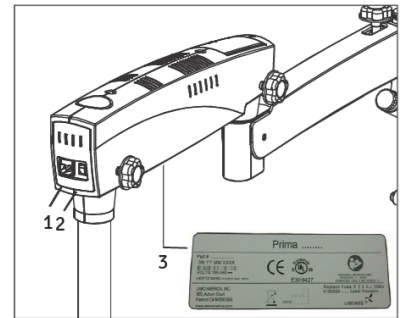

Fig. 42
1. Connect the power cable to the AC inlet socket (1) provided on the back of the swivel arm as shown in the fig.42. Switch on the power from on/off switch (2).
Note: Power supply is designed with universal input 100V - 240V AC, 50/60HZ. To plug in follow instruction on electrical label provided at bottom of the arm as shown (3) here in Fig.42.
It is located on the back of the swivel arm Refer fig 42. At 'I' position, microscope is on and cooling fan starts running.